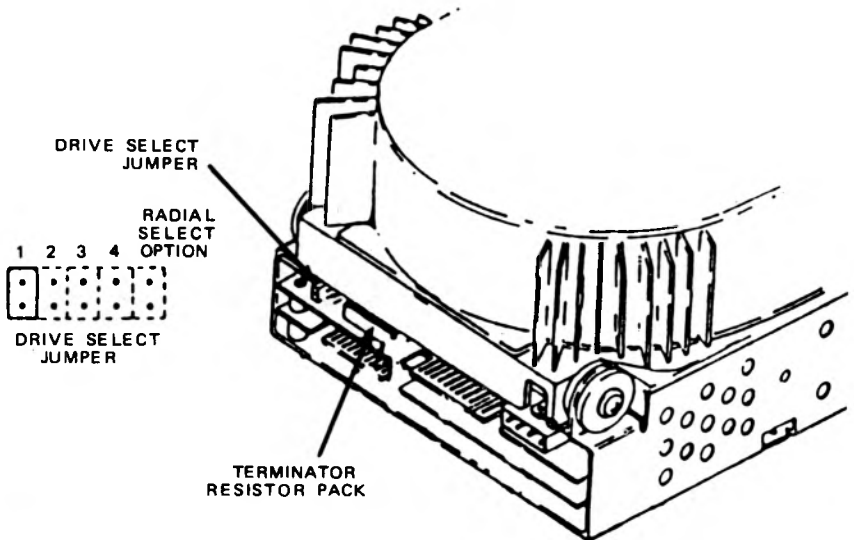

Figure 1
2. The drive must be configured to match your system requirements. The following table lists the possible drive configurations and Figure 1 shows the locations of the straps. Refer to your Owner's Manual for the strapping for your system.